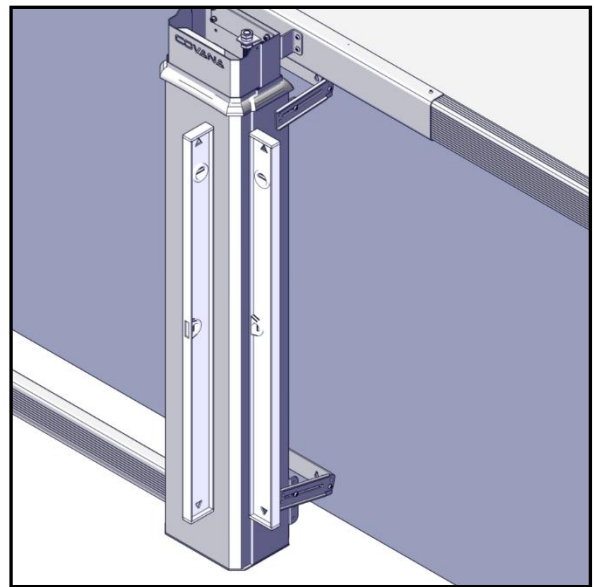

FIGURE 80: POST LEVEL ADJUSTMENTS
21. Check if the posts are still level on both vertical axes. If not, unscrew the mount arms and reposition the sleeves. Use the outer sleeve as a reference. Use the 48" (122 cm) level see Figure 80.
5. Check if the middle sleeves are free by sliding them up and down by hand. Test if the middle sleeve slides without scratching or interfering with inner or outer sleeve. If all seems to function properly, lower the cover and check if the sleeves are level using the 48" (122 cm) level on both sides of the sleeves as shown in Figure 80.